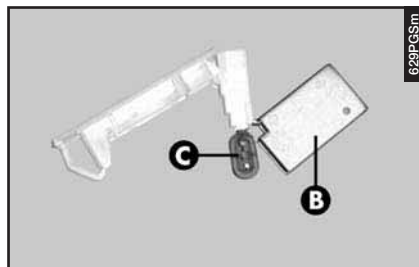

fig. 77
– Press the sides of the bulb screen (**B-fig. 77**) in correspondence with the two fastening pins and turn it.
– Change the bulb (**C-fig. 77**) which is pressure-fitted.